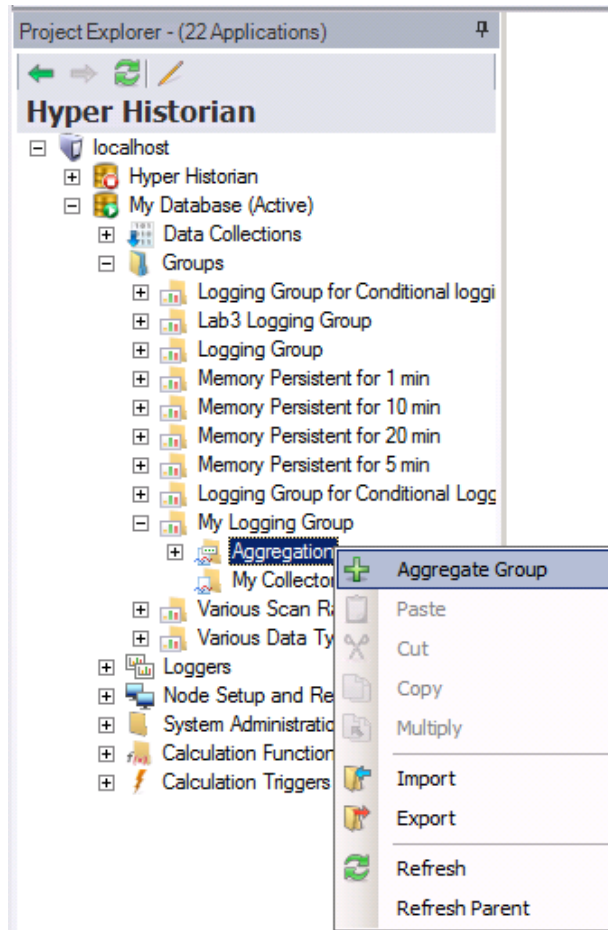

Figure L4.1 - Adding an Aggregate Group to the Aggregation Folder
2. Expand the **Data Collections** node and the **Logging Group** node. Right-click the **Aggregation** node and select **Aggregate Group**, as shown in Figure L4.1. You may remember that the Aggregation node was created automatically when you saved the logging group. The Aggregation node is permanent; it cannot be deleted. All aggregate groups must be added to this node.